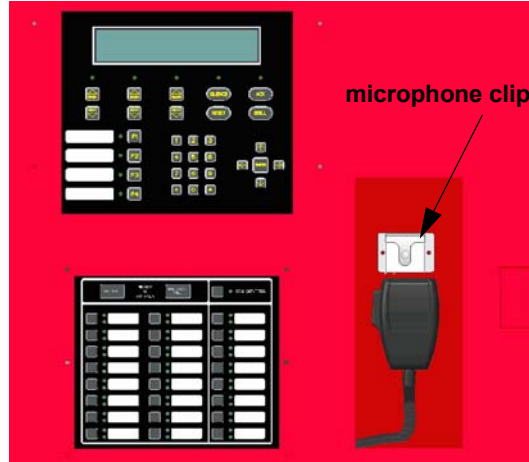

Figure 6 Microphone with the Microphone Clip
1. Clip the microphone into the microphone clip. See Figure 6.